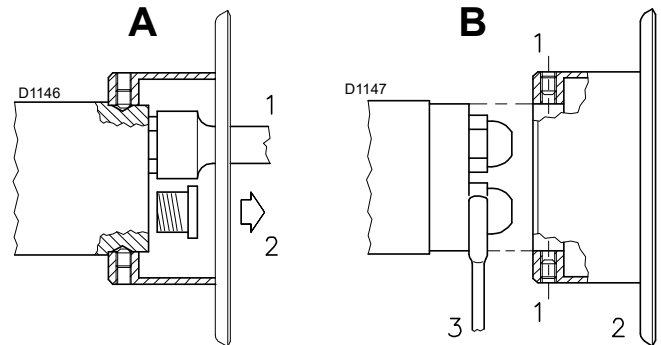

Fig. 16
- Assemble the two nozzles with the socket spanner 1)(A Fig. 16) (16mm), after removing the plastic plugs 2)(A Fig. 16), passing from the central opening of the flame stability disc. Alternatively, loosen the screws 1)(B Fig. 16), remove the disc 2)(B Fig. 16), and replace the nozzles using the spanner 3)(B Fig. 16).